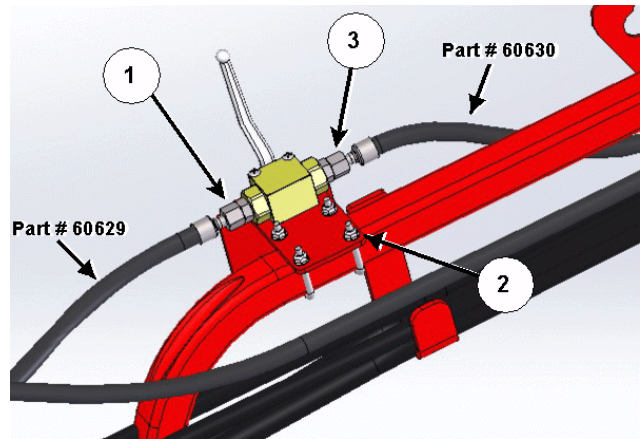

Figure 6: Connect hoses to the valve
9. Connect the 6X22 hydraulic hose (part# 60629) to the hydraulic fitting adapter (1) on the hydraulic ball valve, see *Figure 6*.
10. Tighten the flanged lock nuts (2) holding the U-bolts on the valve mount in place, see *Figure 6*.
11. Connect a 6X65 hydraulic hose (part# 60630) to the remaining hydraulic fitting adapter (3) on the hydraulic ball valve, see *Figure 6*.